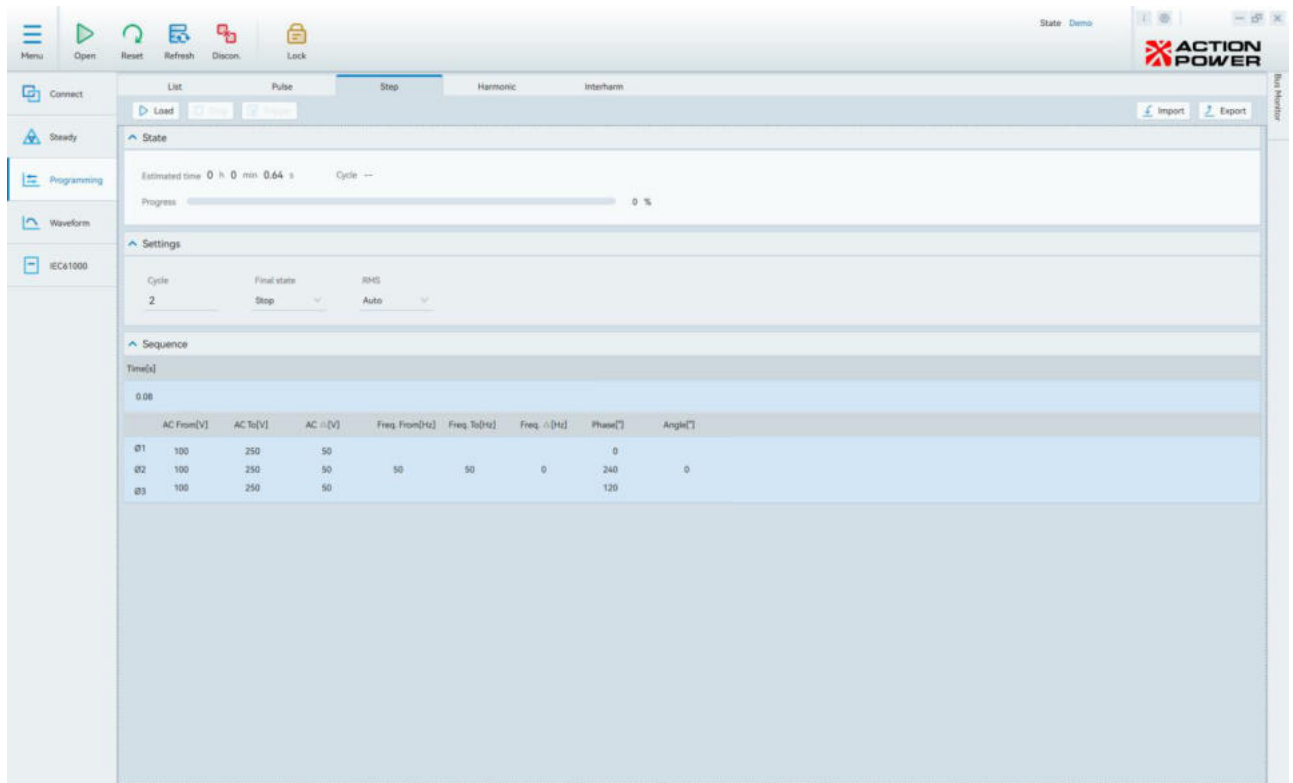
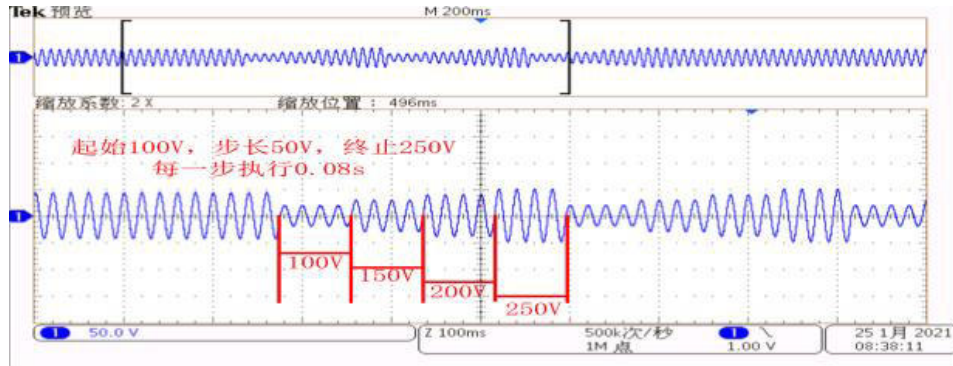

Figure 6.2.8 Transient Step Configuration Diagram
Figure 6.2.9 Transient Step Waveform Diagram
- Example: Select AC for the coupling mode and three-phase synchronous output. The transient STEP configuration is shown in Figure 6.2.8, with the corresponding waveform in Figure 6.2.9.